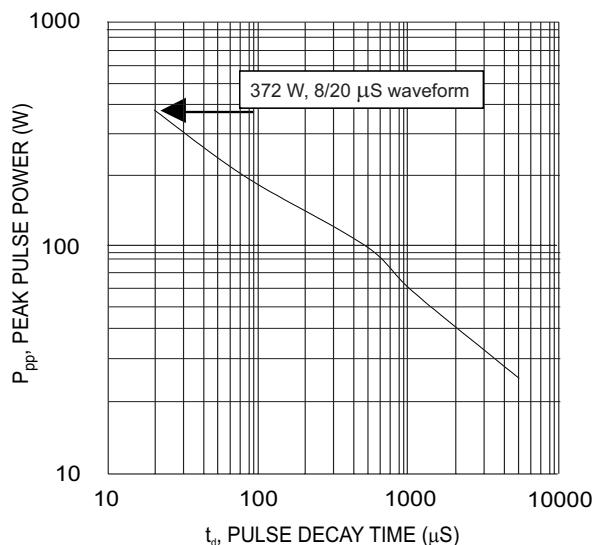

Fig. 2 Unidirectional Non-Repetitive Peak Pulse Power vs. Pulse Duration or Pulse Width
e.g. $P_{pp} = 372$ watts for pulse width(td) of 20 μs , then 372 watts = $K (20)^{-0.5}$ and $K = 372/(20)^{-0.5} = 372 * \sqrt{20} = 1663.63$
Now, P_{pp} when $td = 50 \mu\text{s}$: $P_{pp} = 1663.63 (50)^{-0.5} = 1663.63/(50)^{0.5} = 1663.63/(\sqrt{50}) = 235.27$ watts (close to measured value see fig. 2)